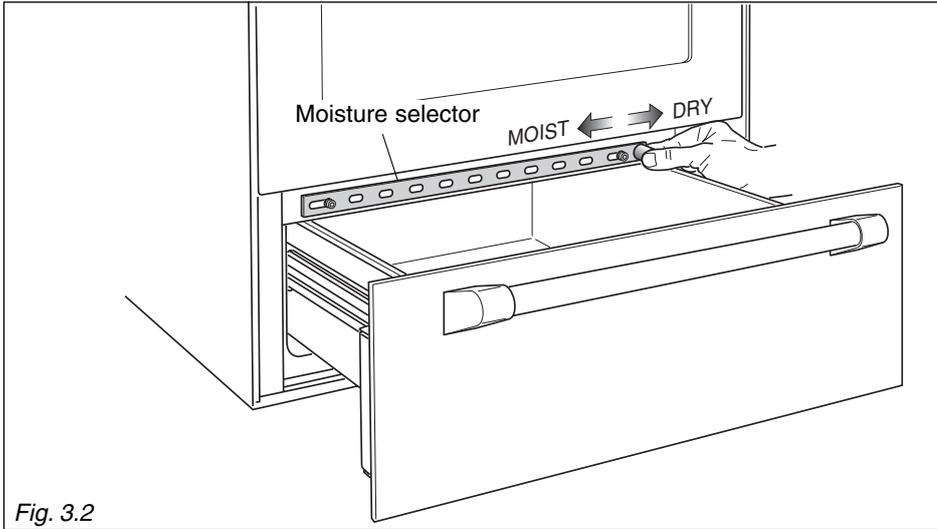

Fig. 3.2
- Push and turn the control knob to a temperature setting: (LO), (HI) or between (LO) and (HI) position.
- Slide the Moisture selector to a Moist or Dry position. Intermediate positions can be setted (fig. 3.2) (see the “MOISTURE SELECTOR” chapter)
**MOISTURE SELECTOR (fig. 3.2)**